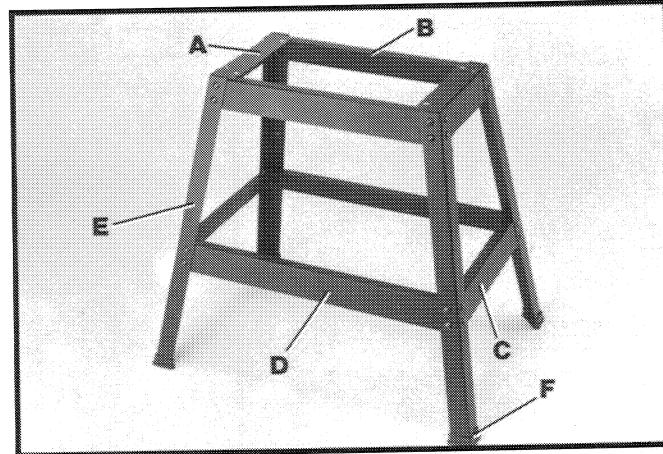

Fig. 4
1. Assemble the stand, as shown in Fig. 4, using the 32 carriage bolts, flat washers and nuts supplied. The two 11-1/2" long upper braces (A); 21-5/16" long upper braces (B); 17-1/8" long lower braces (C); and 26-5/8" long lower braces (D) should be fastened to the four 27-1/2" long legs (E). **IMPORTANT: The top lips of the upper braces (A) should be on top of the top lips of upper braces (B).**
2. Assemble a plastic foot (F) Fig. 4, to bottom of each leg (E) as shown.